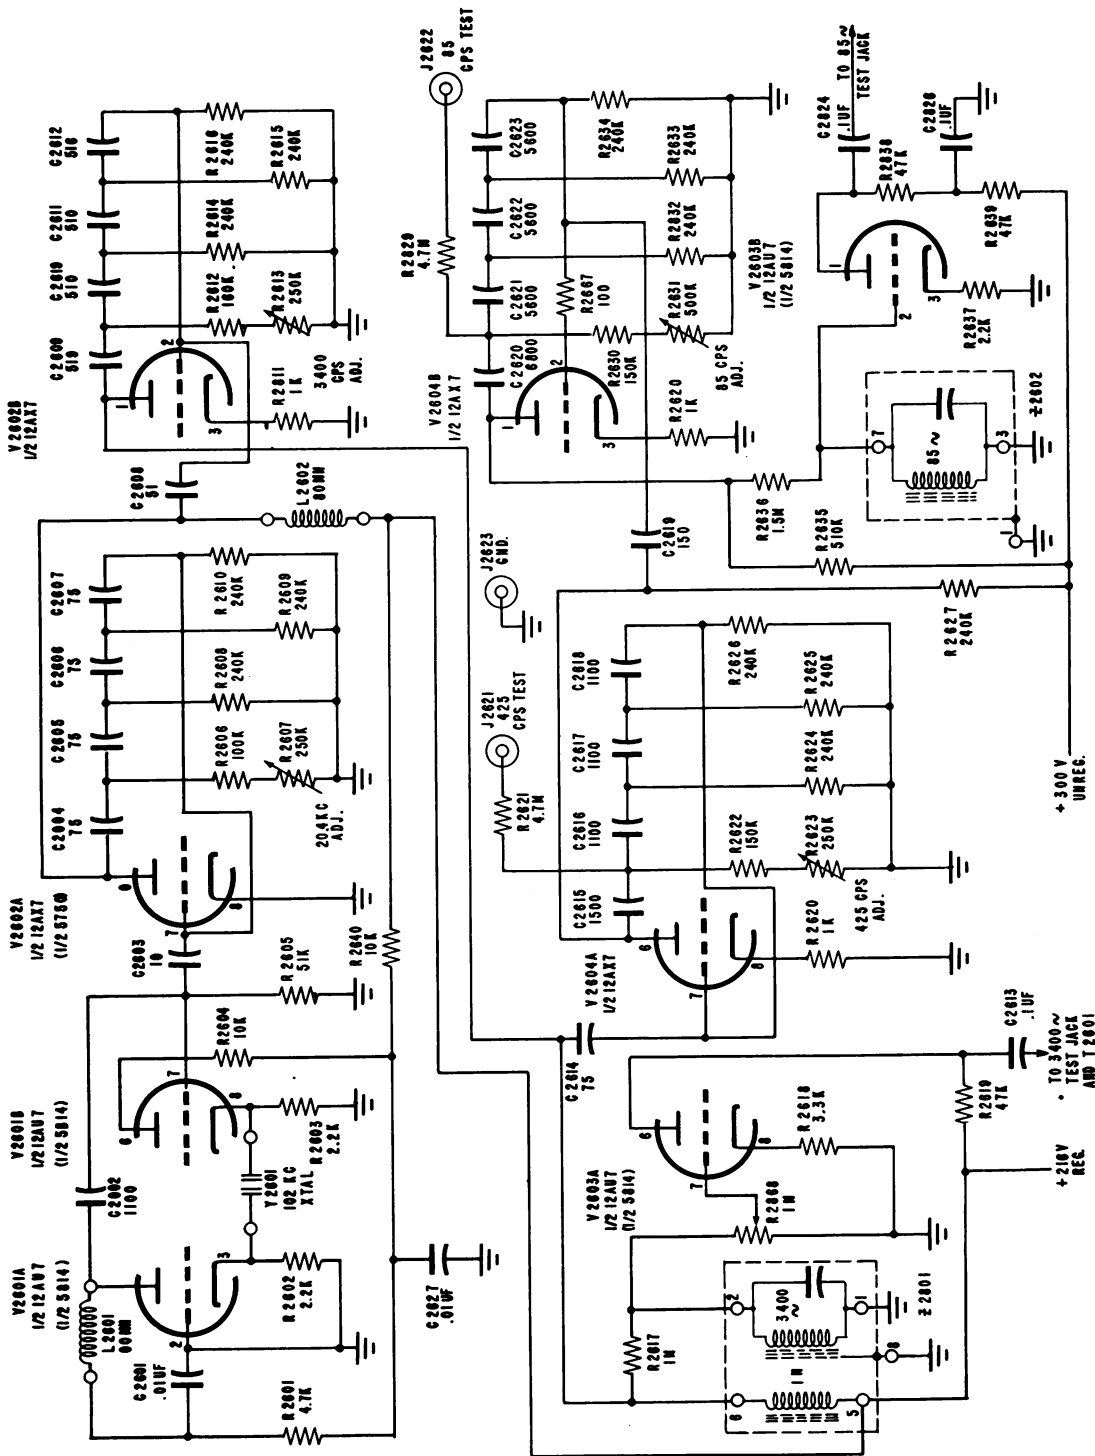

Figure 2-17. Schematic Diagram of Oscillator and Divider Circuits of Frequency Converter CV-243/FCC-3
b. **OSCILLATOR AND DIVIDER CIRCUITS.** - The 3400 cycle carrier voltage for the diode modulation bridge is obtained with RC phase-shift, frequency dividing oscillators from a 102.00 kc crystal oscillator, which utilizes a 12AU7 type tube V2601A as a cathode coupled oscillator and a crystal operated in series resonance. This circuitry is shown in figure 2-17. R2601.